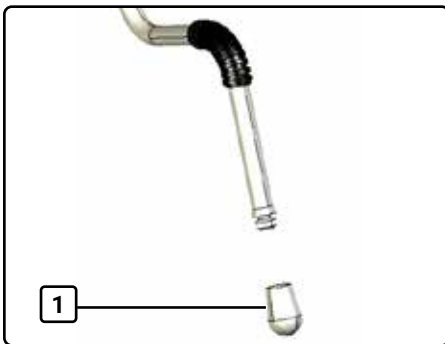

Fig. 9 Steam wand nozzle, removed
2. Unscrew the steam wand nozzle (1, Fig. 9) by hand and place it to the side.